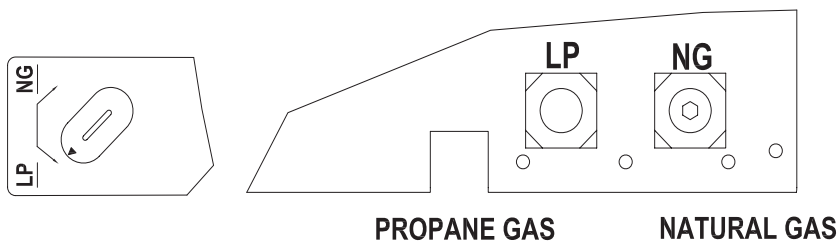

Figure 14
1. Overturn chassis, See Figure 14.